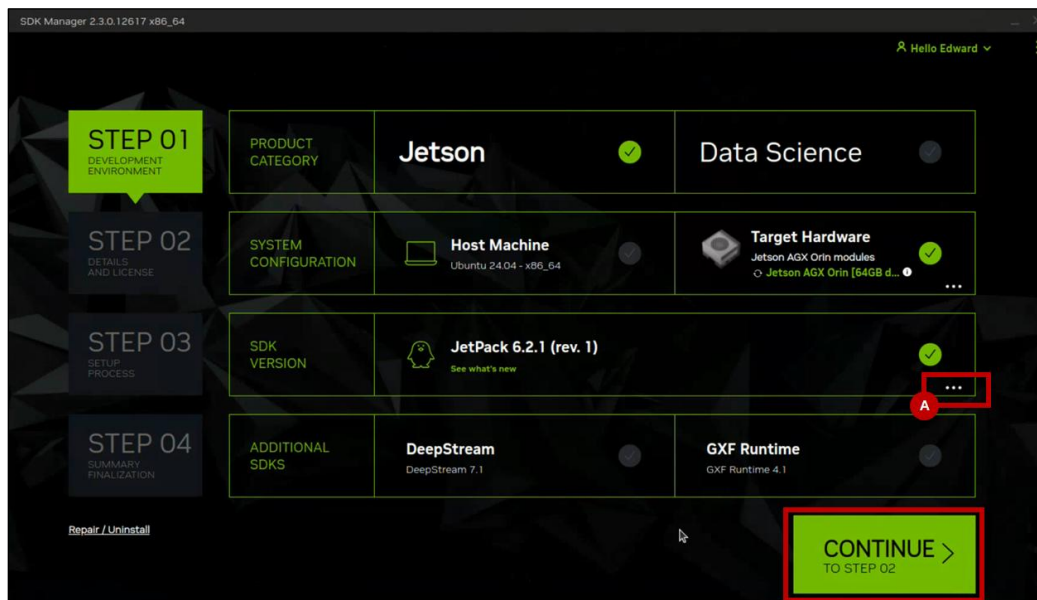

Figure 6.7. JetPack 6.2.1 (Rev.1)
- Click the ... icon at **(A)** as shown in Figure 6.7, and select **JetPack 6.2.1 (Rev. 1)**. Then, click **CONTINUE** to proceed.